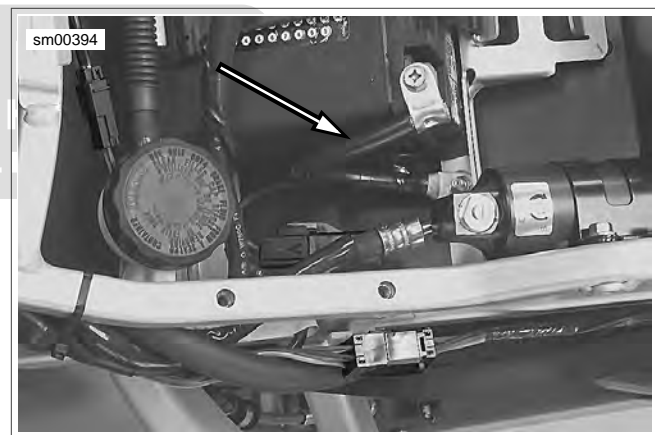

Figure 6-19. Negative Battery Cable (Typical)
2. See Figure 6-19. Remove fastener to detach negative battery cable from frame.
- c. See Figure 6-19. Attach negative battery cable to frame. Tighten to 48-72 **in-lbs** (5.4-8 Nm).